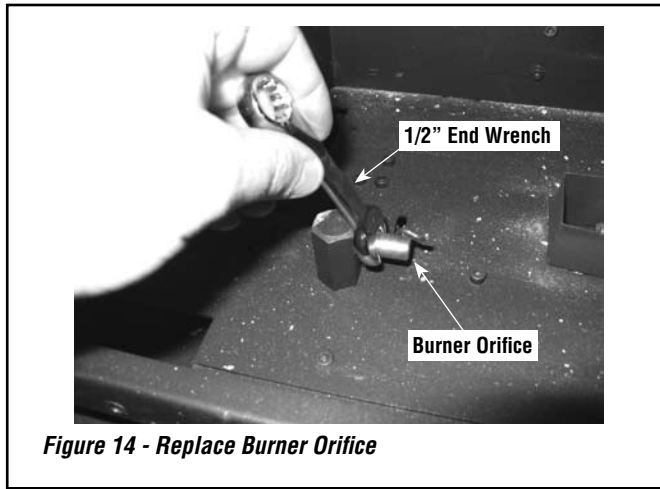

Figure 14 - Replace Burner Orifice
Step 10. Using 1/2" open end wrench, remove the LP burner orifice. Install the new NG orifice. Make sure to use pipe sealing compound on threads of the new orifice (see **Figure 14**).